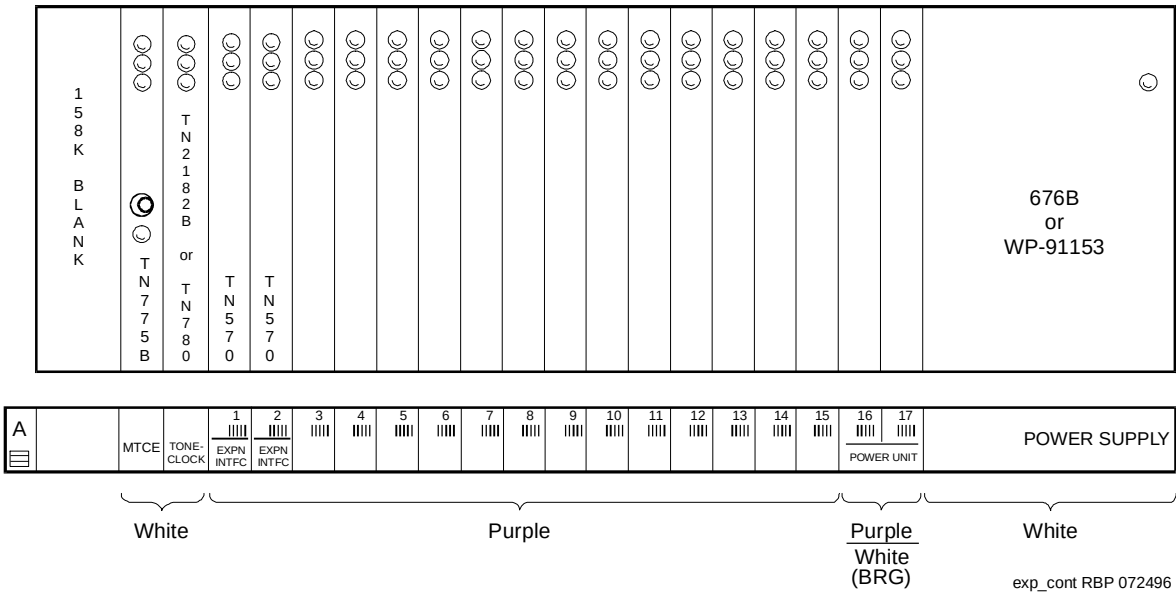

Figure 7-9. Circuit-Pack Locations in DEFINITY ECS Release 5 Expansion Control Carrier
1. See WARNING and NOTE. Install the new DEFINITY ECS Release 5 control circuit packs into carrier "A." See Figure 7-9. The new decal, and the annotated "list configuration all" (provided with the DEFINITY ECS Release 5 tape) as a guide.